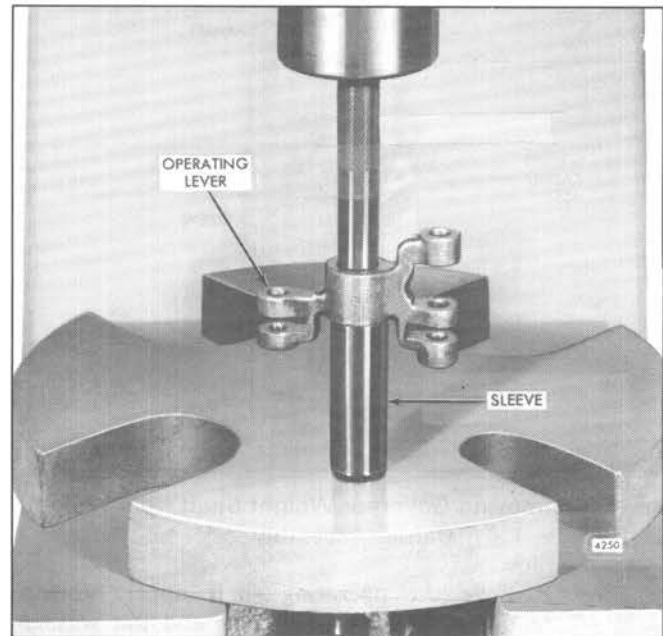

Fig. 16 – Removing Operating Lever Needle Bearings using Tool J 8985
- m. If removal of the needle bearing is necessary, support the control link operating lever on a sleeve and rest the sleeve on the bed of an arbor press. Place tool J 8985 on top of the bearing and press both bearings out of the lever as shown in Fig. 16.